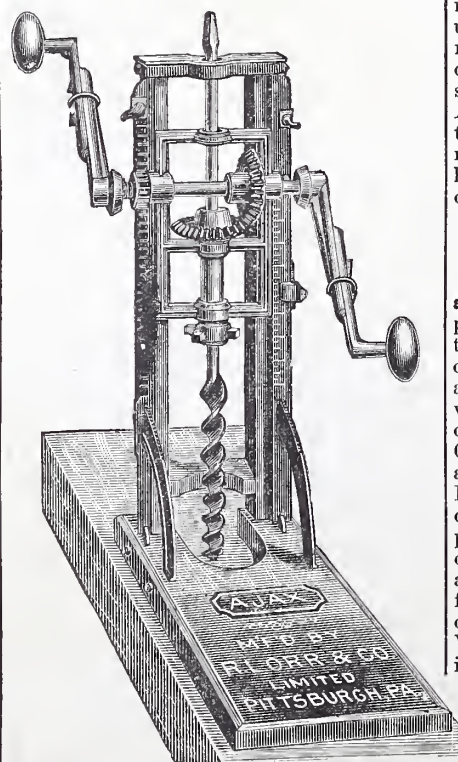

Fig. 2.—The "Ajax" Wood-Boring Machine.
R. L. Orr & Co., Limited, Pittsburgh, Pa., are introducing a new self-withdrawing wood-boring machine, a view of which is presented in Fig. 2 of the engravings. This machine is warranted by the makers to do all that other wood-boring machines accom-